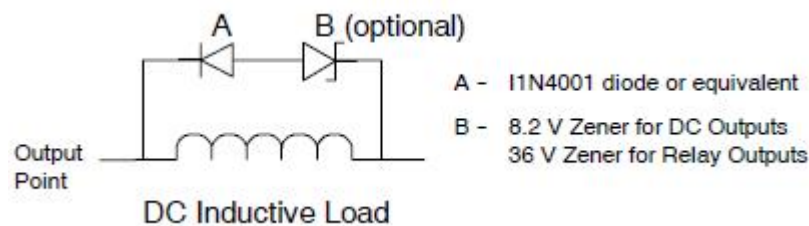

Figure 3-7 Suppression Circuit for DC Load
Figure 3-7 shows a sample suppression circuit for a DC load. In most applications, the addition of a diode (A) across the inductive load is suitable, but if your application requires faster turn-off times, then the addition of a Zener diode (B) is recommended. Make sure the Zener diode can provide enough current for output circuit.